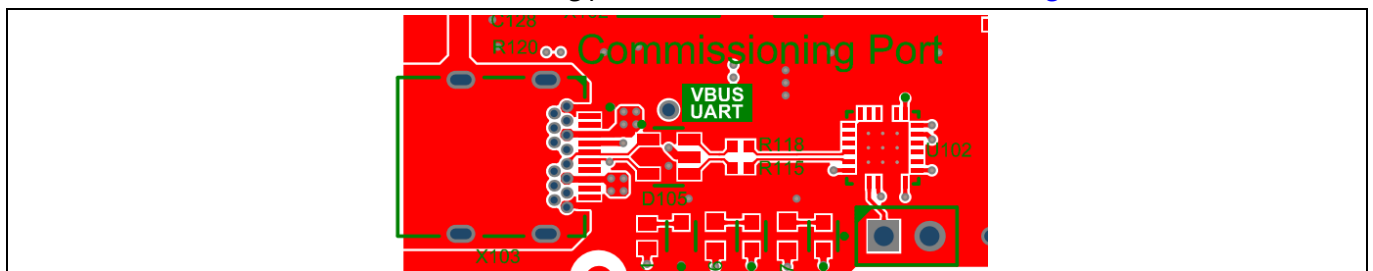

Figure 38 Commissioning port on Control board
3. Connect a USB cable via the commissioning port of the control board to the PC (Figure 38)